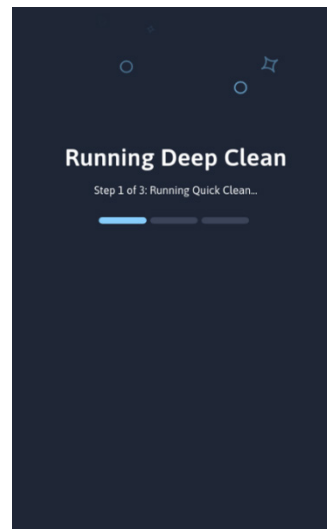

Figure 36
3. The analyzer will automatically run 2 wash cycles, perform the Deep Clean (3 minutes), and conclude by running 2 additional wash cycles (Figure 36). During the 3 minute Deep Clean, the device will appear to be idle while the fluidic system soaks in deepCLEAN Cleaning Solution/sodium hypochlorite.